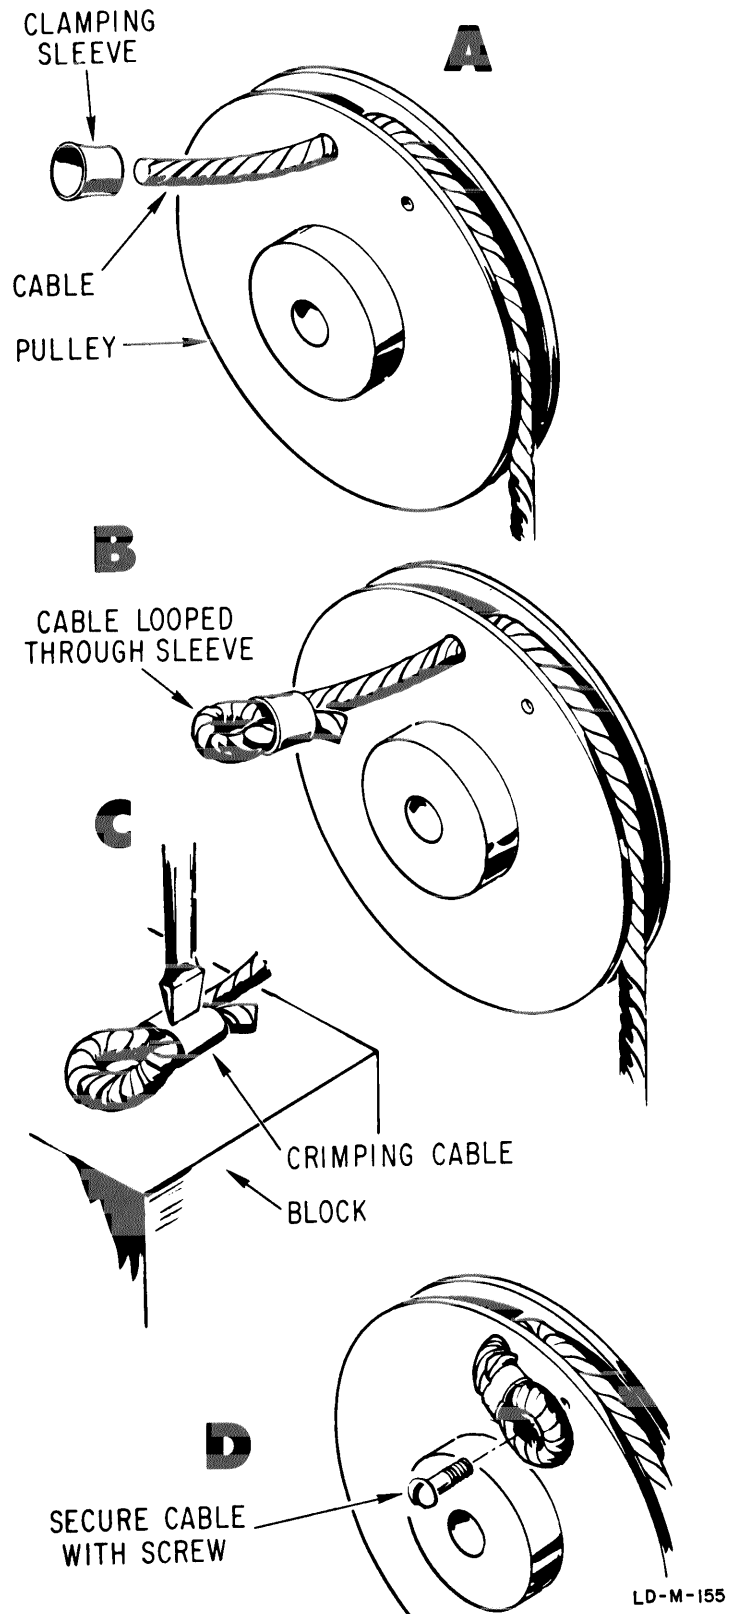

Figure 4-7. Installation of Eyelets on Plastic Coated Cable
- b. Insert free end of 11-inch cable through hole A of drive pulley and form loop in end of cable as directed in Figure 4-7.
- d. Repeat steps b and c using the 15-inch cable. Start at C and finish at D on the small drum as shown in Figure 4-7.
The replacement cables are supplied from the factory with a loop formed in one end. The other end is not looped since it is necessary to thread this end through a hole in the pulley before the loop is formed. (See A of Figure 4-7.)
Crimp center of eyelet as shown in C of Figure 4-7 with a screwdriver and a hammer.
Cable is now ready to be attached to the pulley using the small screw previously removed. (Refer to D of Figure 4-7.)